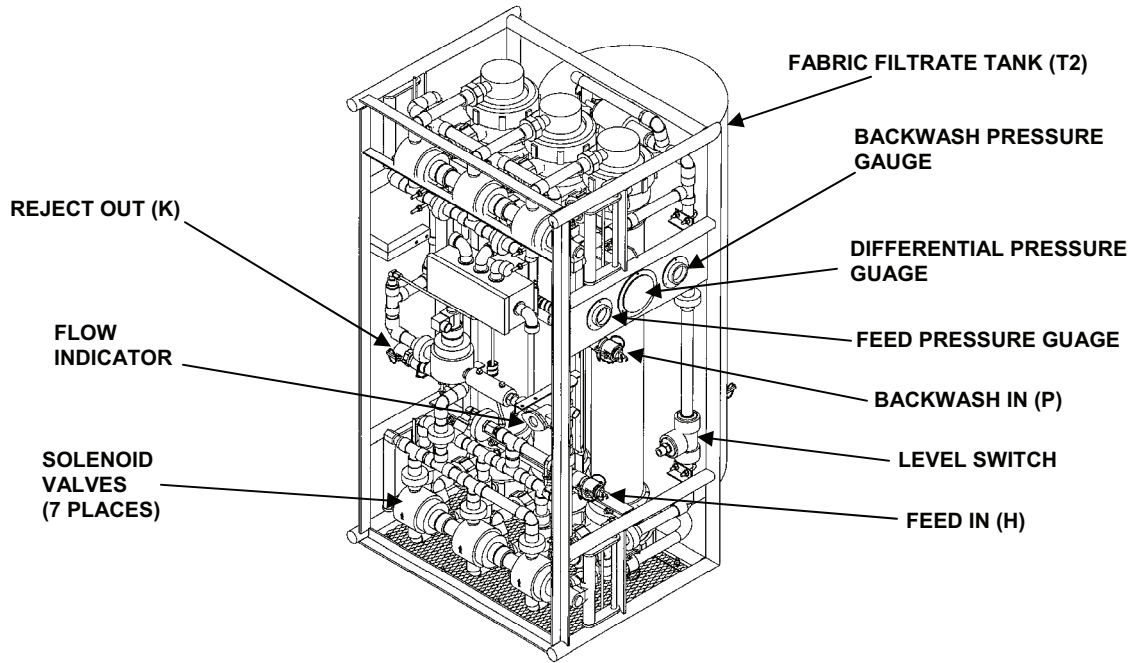

Figure 1. Ultrafiltration Module.
| Feed pressure (UF) | 35 – 60 psi | See Figure 1. |
| Differential pressure (UF) | 0 – 30 psi | See Figure 1. |
| Backwash pressure (UF) | 35 – 60 psi (occurs 3 times per hour) | See Figure 1. |